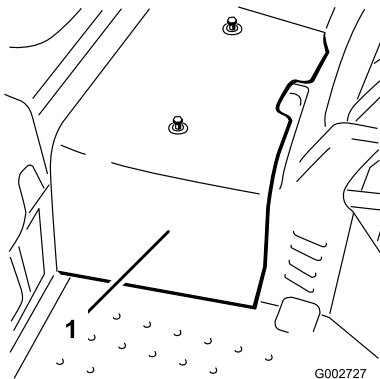

Figure 40
2. Loosen the 2 screws securing the center shroud to the machine and remove the shroud (Figure 40).